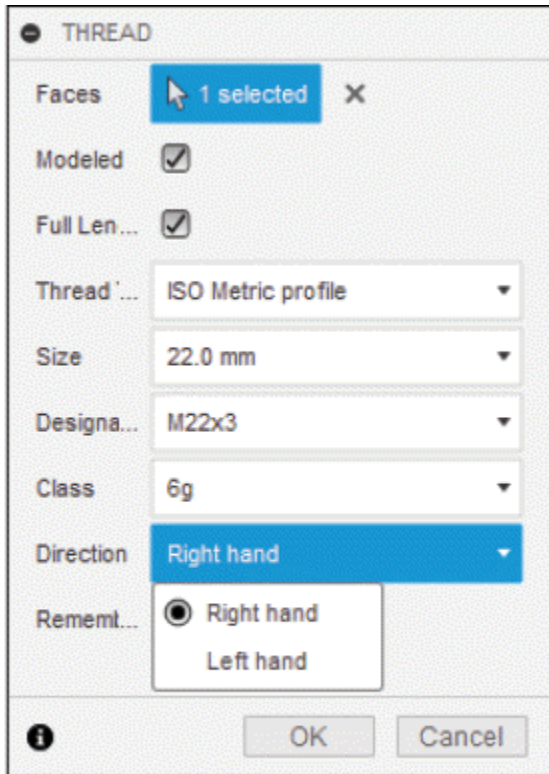

Figure-57. Thread Direction drop down
- Click on **Direction** drop-down and select the direction for thread; refer to Figure-57.